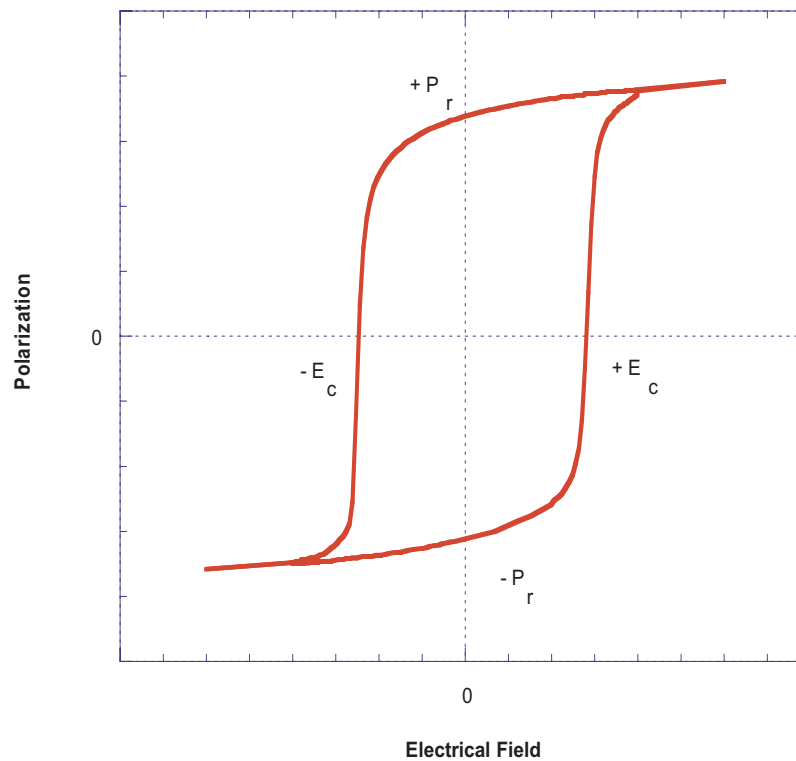
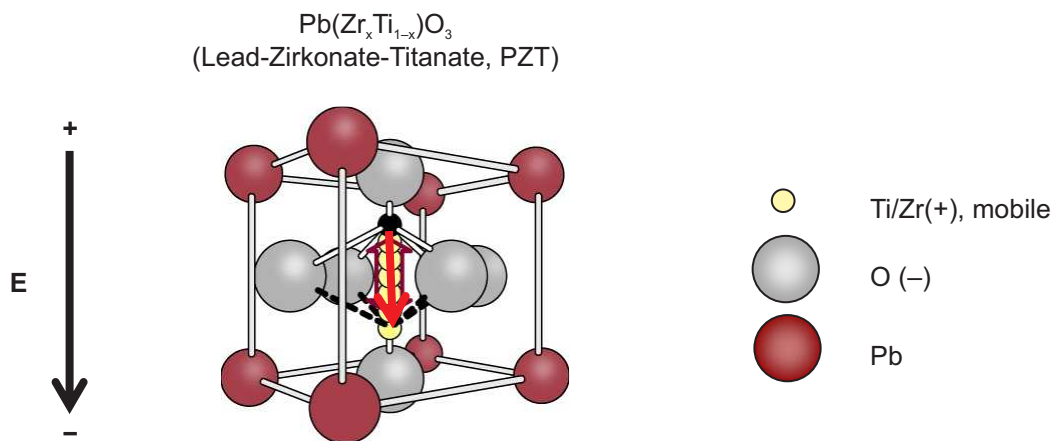

Figure 1. Polarization Hysteresis Loop
Figure 2. Lead-Zirconate-Titanate Structure
The term results from the hysteresis loop (shown in Figure 1) being similar to the magnetic hysteresis loop of iron (Fe). In contrast to the magnetic hysteresis loop, the one in FRAM results from the electrical dipole formed by zirconium (Zr) and oxygen (O) atoms in the ceramic lead-zirconate-titanate crystal (PZT) used to implement FRAM as shown in Figure 2.
Applying an electrical field (E) can polarize the material by "moving" the Zi atom in the structure. But to move the Zi atom from one side (here from the upper) to the other side (here the lower) of the O atoms, it must cross the barrier from by the O atoms. So, with increasing field strength, the Zi atom moves gradually closer to the O atoms before – at a certain field strength – it "suddenly" flips to the other side. If a field is then applied with opposite direction, again the Zi atom would just gradually change its position before flipping to the other side. This will happen at the same field strength as before, but with an opposite sign. This behavior results in the electrical field versus polarization hysteresis loop shown in Figure 1.